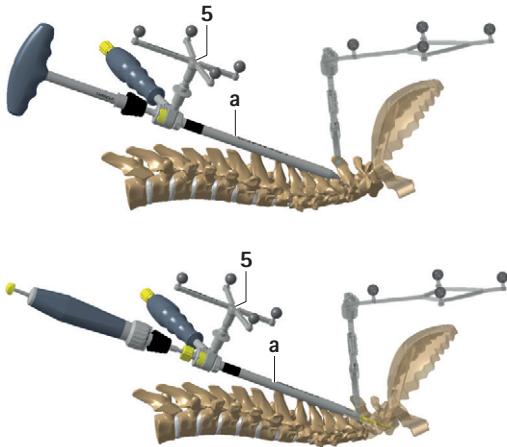

Fig. 15
- ▶ Insert the all-in-one guide **a** (SZ131R), see TA015761, see Fig. 15 (top).
With the navigated all-in-one guide **a** the following surgical steps can be performed under navigation guidance: stab incision, opening of the cortex, drilling, tapping and screw insertion, see Fig. 15 (bottom).